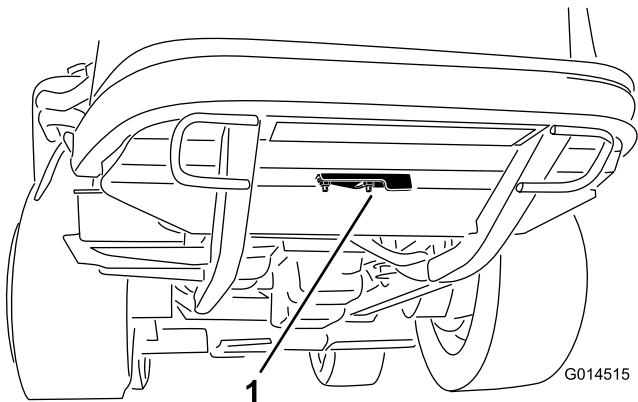

Figure 46
2. Loosen the flange nut securing the clean-out cover to the underside of the rear frame (Figure 46). Rotate the cover to the side to expose the clean-out hole in the frame.